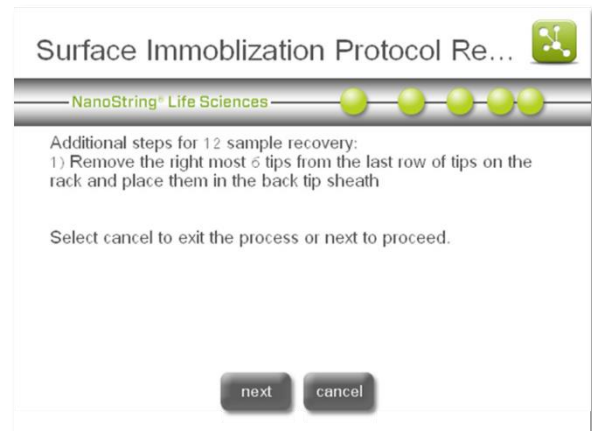

Figure 137: Additional instructions for the 'Surface Immobilization Protocol Recovery' workflow.
3. Additional instructions will appear. These instructions apply only to recovery of 12 samples (**Figure 137**). Press **next**.